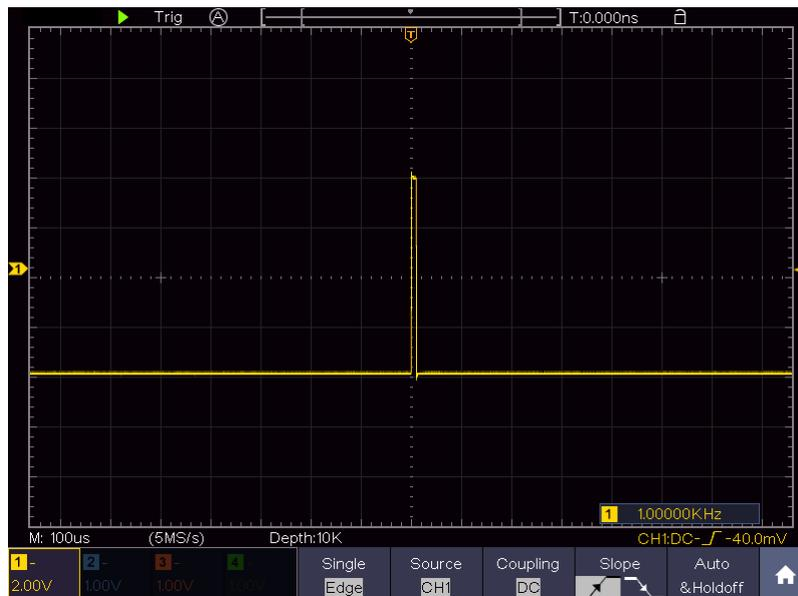

Figure 8-3 Capturing a Single Signal
- (2) Push **CH1** button to select CH1, adjust the **Vertical Scale** and **Horizontal Scale** knobs to set up a proper vertical and horizontal ranges for the signal to be observed.
- (3) Push the **Acquire** button to display the Acquire menu.
- (4) Select **Acqu Mode** in the bottom menu. Select **Peak Detect** in the right menu.
- (5) Push the **Trigger Menu** button to display the Trigger menu.
- (6) Select the first menu item in the bottom menu. Select **Single** in the right menu.
- (7) In the left menu, select **Edge** as the mode.
- (8) Select **Source** in the bottom menu. Select **CH1** in the right menu.
- (9) Select **Coupling** in the bottom menu. Select **DC** in the right menu.
- (10) In the bottom menu, select **Slope** as  (rising).
- (11) Turn the **Trigger Level** knob and adjust the trigger level to the roughly 50% of the signal to be measured.
- (12) Check the Trigger State Indicator on the top of the screen, if it is not Ready, push down the **Run/Stop** button and start acquiring, wait for trigger to happen. If a signal reaches to the set trigger level, one sampling will be made and then displayed in the screen. By using this approach, a random pulse can be captured easily. For instance, if we want to find a burst burr of high amplitude, set the trigger level to a slightly higher value of the average signal level, push the **Run/Stop** button and wait a trigger. Once there is a burr occurring, the instrument will trigger automatically and record the waveform during the period around the trigger time. By turning the **Horizontal Position** knob in the horizontal control area in the panel, you can change the horizontal triggering position to obtain the negative delay, making an easy observation of the waveform before the burr occurs (see *Figure 8-3*).